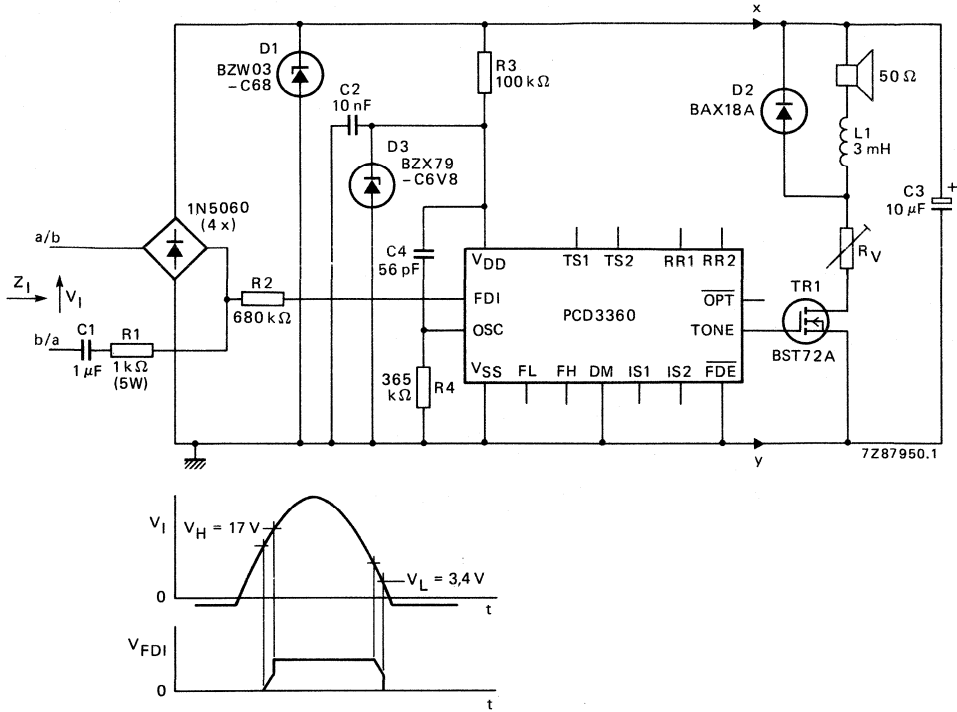
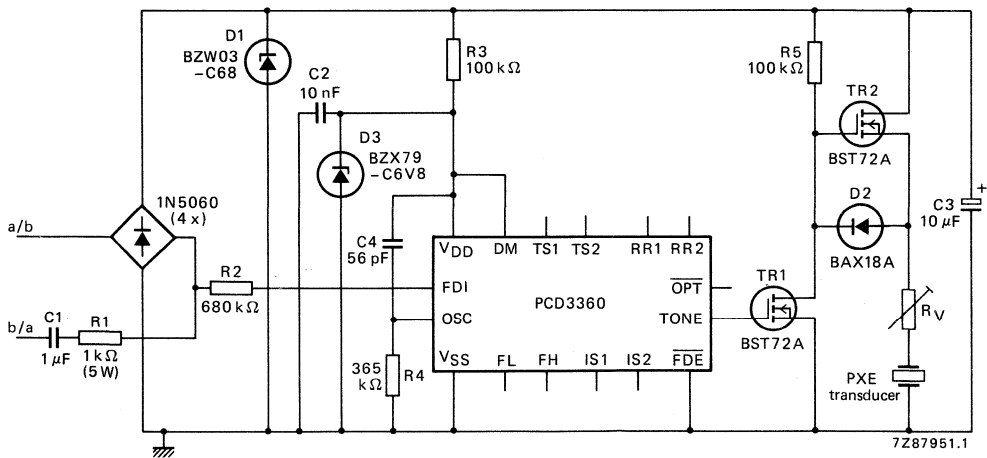

Fig. 8 Transformerless electronic ringer with PCD3360 and a loudspeaker.
Fig. 9 PCD3360 ringer with PXE transducer.
Application of the PCD3360 in a telephone ringer circuit together with a loudspeaker is shown in Fig. 8.
- The value of R2 (680 k Ω in Fig. 8)
- The value of R3 (100 k Ω in Fig. 8)
Application of the PCD3360 together with a PXE transducer is shown in Fig. 9. The only significant difference between Fig. 8 and Fig. 9 is the output stage. Two BST72A transistors provide an output voltage swing almost equal to the voltage at C3. Pins IS1 and IS2 are inoperative because DM = HIGH. Volume control is possible using resistor R_V .